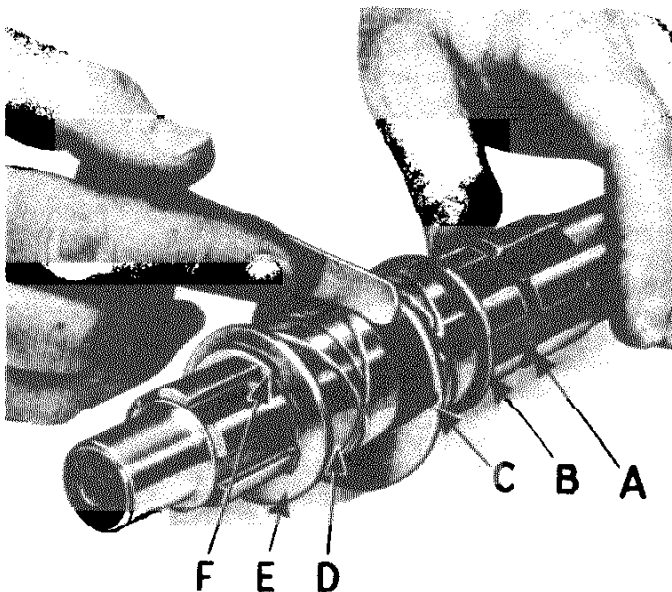

Figure H19
3. SECOND AND THIRD SPEED BUSH BEARING AND MAINSHAFT CLEARANCE **Fig. H19.**